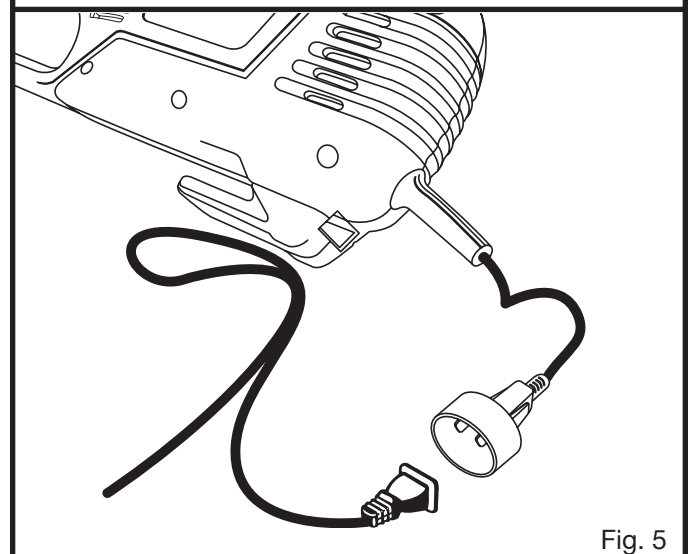

Fig. 5
- Loop the extension cord through the extension cord retainer slot located on the bottom end of the trimmer. See Figure 5.